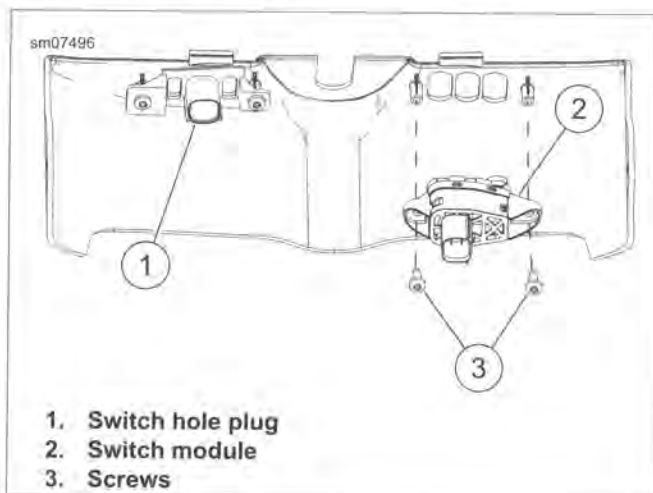

Figure 7-51. Dash Panel Switches
2. See Figure 7-51. Remove two screws (3). Remove switch module (2) or hole plug (1).
2. See Figure 7-51. Secure switch module to dash panel with two screws (3). Tighten securely. Over-tightening will cause damage to dash panel.